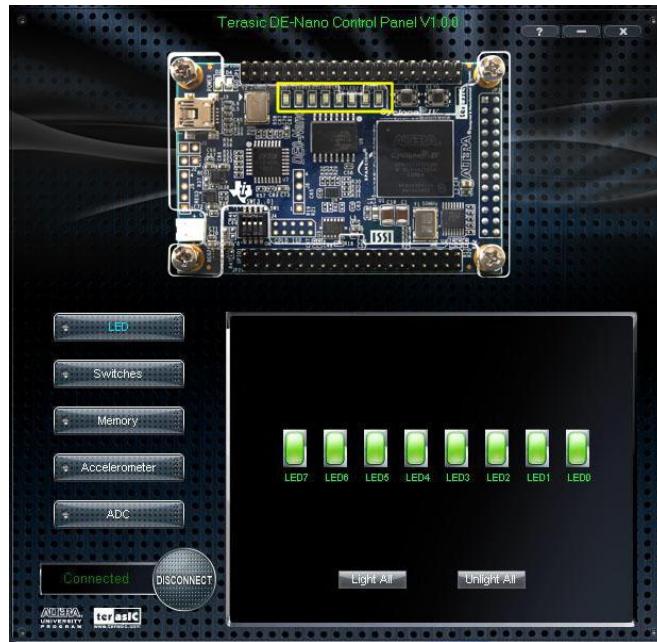

Figure 4-1 The DE0-Nano Control Panel
3. Start the executable *DE0_NANO_ControlPanel.exe* on the host computer. The Control Panel user interface shown in **Figure 4-1** will appear.